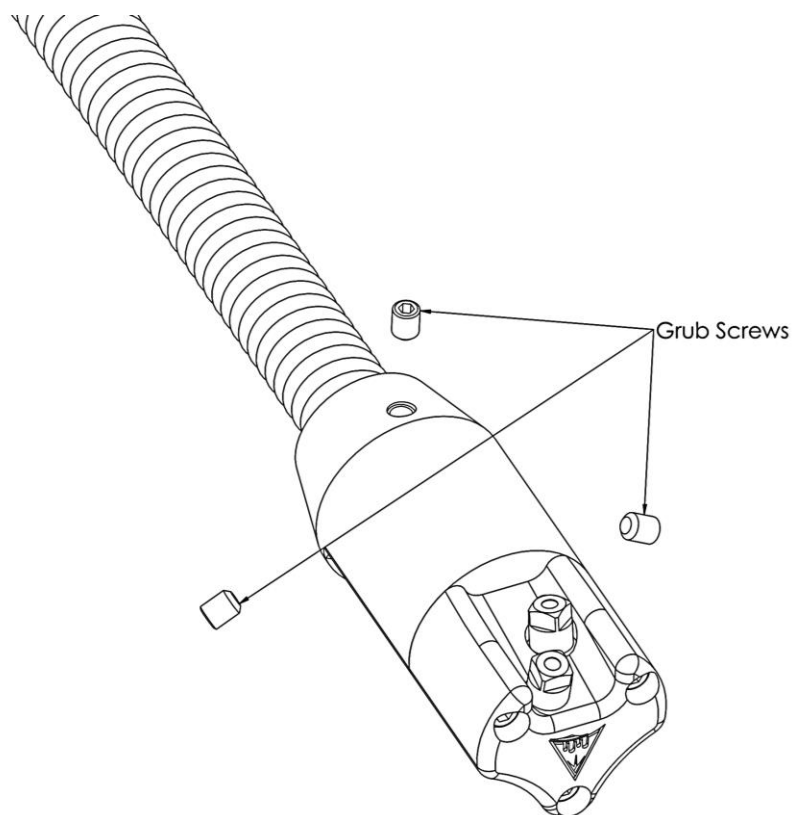

Figure 13. Grub screws x3 for attachment onto spring
- Loosen the three grub screws shown in *Figure 13*.